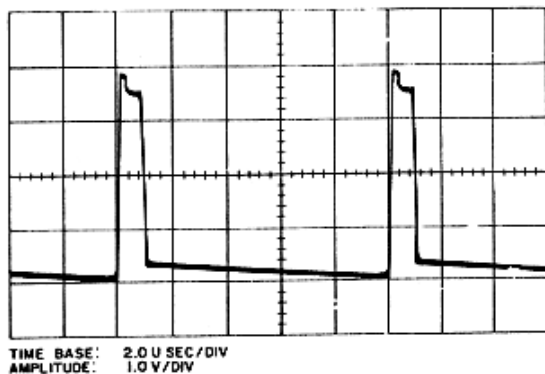

Figure 6.12 – Q16, Base Waveform
f. Reconnect oscilloscope to base of 100 kHz buffer amplifier Q16 (or top of R14). The observed waveform should resemble the one shown in figure 6.12.
c. Connect oscilloscope to the junction of R13 and R14. Set R11 to the center of the range which results in a waveform with time between pulses equal to and amplitude close to those shown in figure 6.12. For example, if the time between pulses is correct over a range of 3 1/2 turns of R11, set R11 exactly 1 3/4 turns from the setting at which the time between pulses jumps to the next longer or next shorter value.